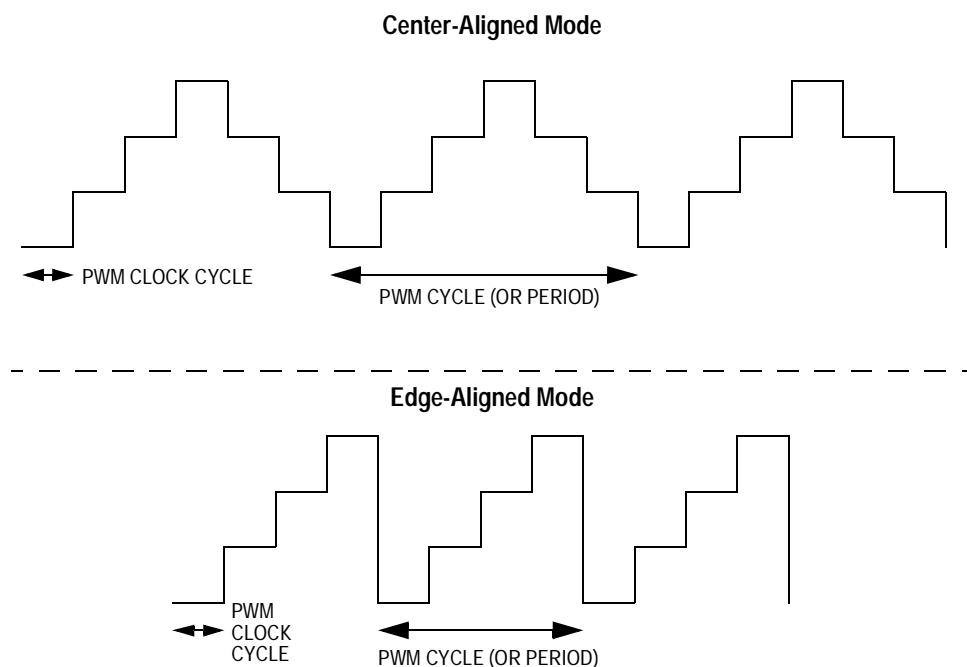

Figure 9-46. PWM Clock Cycle and PWM Cycle Definitions
PWM clock cycle (or period) — One tick of the PWM counter ($1/f_{OP}$ with no prescaler). See Figure 9-46.
- Center-aligned mode: The time it takes the PWM counter to count up and count down (modulus * $2/f_{OP}$ assuming no prescaler). See Figure 9-46.
- Edge-aligned mode: The time it takes the PWM counter to count up (modulus/ f_{OP}). See Figure 9-46.